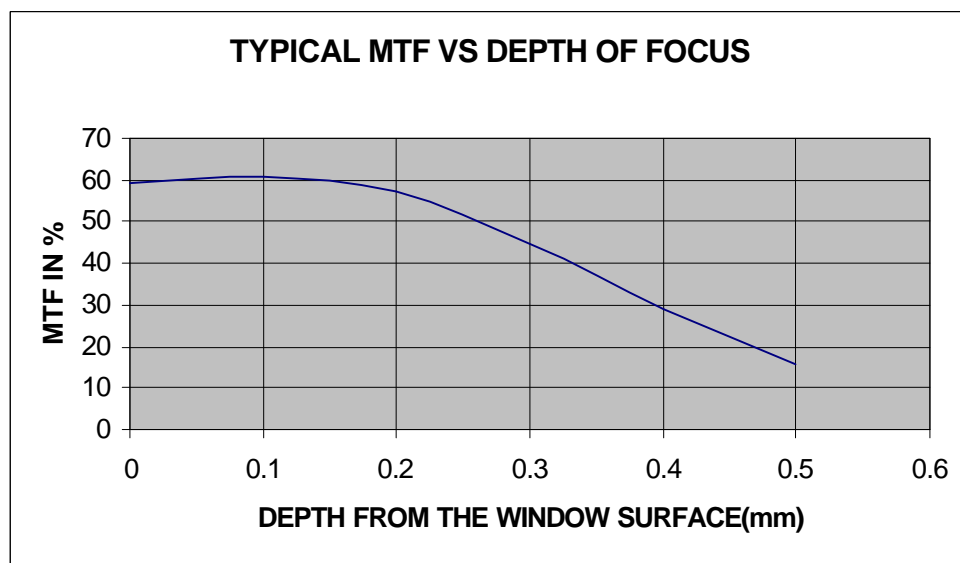

Figure 3. MTF versus Distance
(6) This level is measured from the reset level that is located between the pixels, during the pixel reset duration. The reset level is at or near ground, 0V. Note the gain is adjustable on each output. However, it is recommended that the gain should not be increased above the level where the reset ground level starts to increase above zero.
(7) A graph of the typical is shown under discussion of MTF in Figure 3.
See Figure 3 MTF versus Distance. This graph essentially shows the working depth of focus. Since this module is a 400DPI module, a pixel density of 400 pixel per inch, the